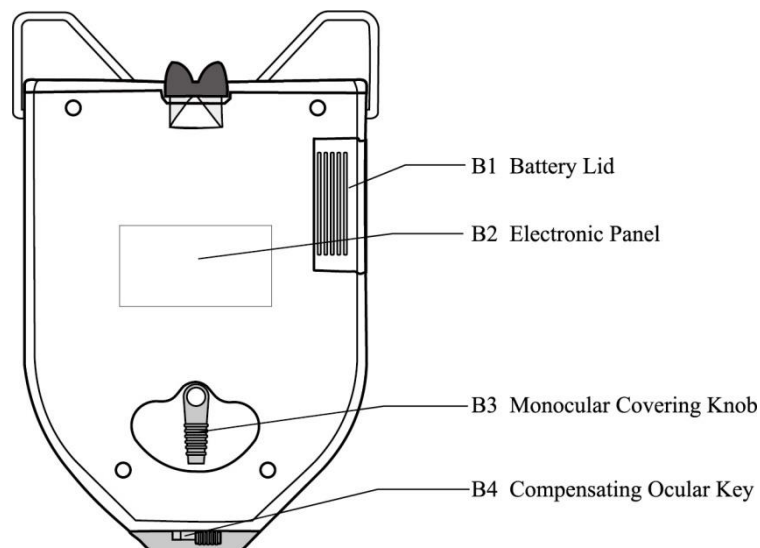

Fig.3
a. When needing to measure the left or right pupillary distance, please turn the Monocular Covering Knob (as shown in Fig.3 B3) which can cover the other eye completely(as shown in Fig.8a and Fig.8b)